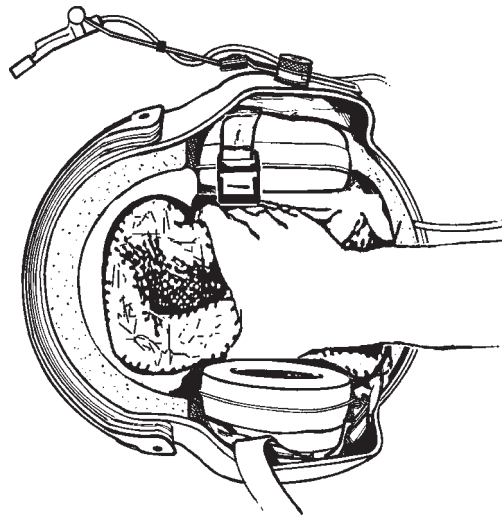

Figure 2-23. Installing TPL
9. Squeezing sides of TPL together to clear earcups, install liner in helmet as shown in Figure 2-23. Ensure that label and holes are positioned toward front of helmet.